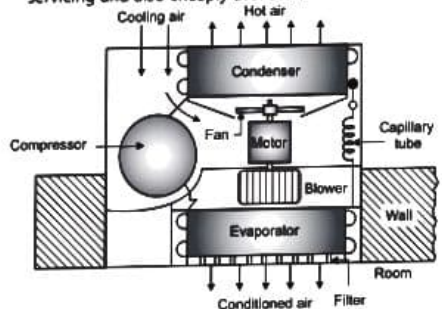

Fig. 3.6 : Room air conditioner
- The components of the unit are illustrated in Fig. 3.6